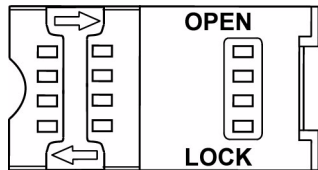

Figure 13 MSAM Cardholder Lock Plate Detail
- a Unlock the cardholder: Slide the lock plate to the unlocked position, in the OPEN direction (Figure 13).
- 7 Lock each MSAM cardholder by sliding its locking plate towards the LOCK arrow until the plate stops (Figure 13).